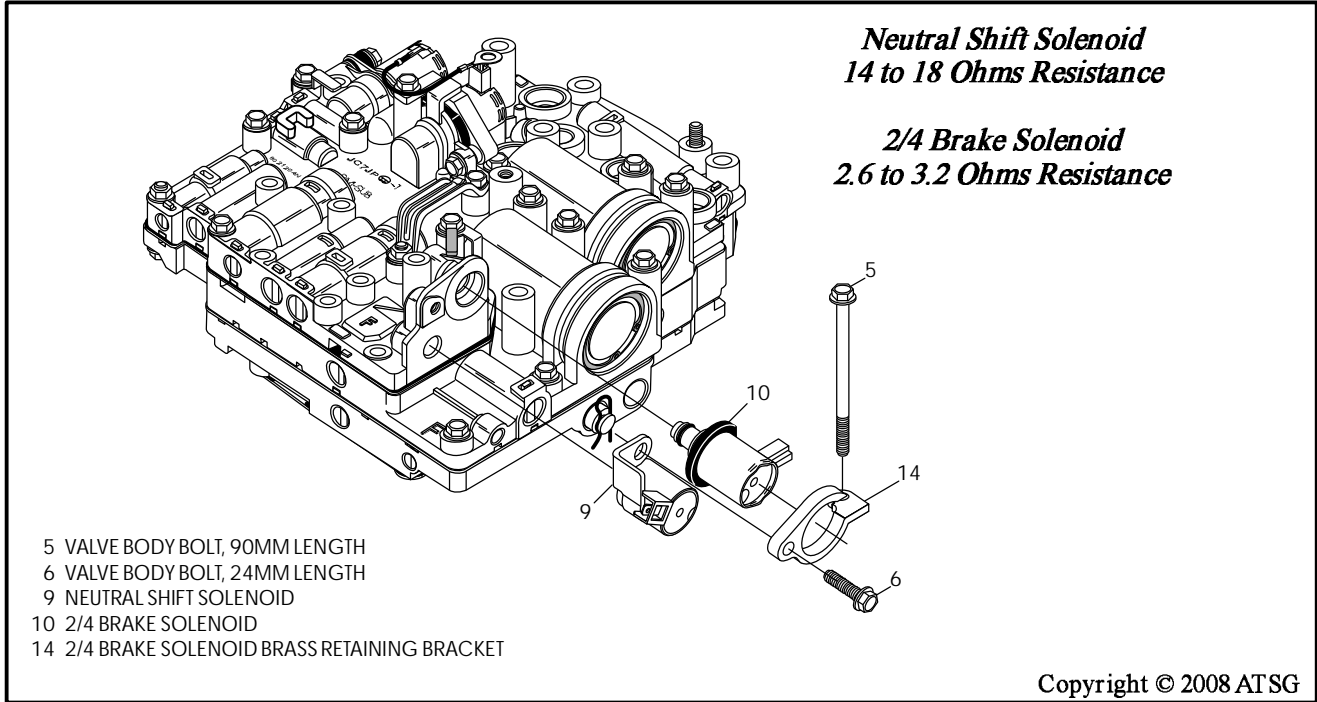

Figure 179
57. Install new "O" ring, lube with ATF, and install neutral shift solenoid into the valve body, as shown in Figure 179.
59. Assemble the brass retaining bracket onto the 2-4 brake solenoid, and install both pieces as an assembly onto the valve body, as shown in Figure 179.
60. Install one 90mm bolt and one 24mm bolt in the positions shown in Figure 179.